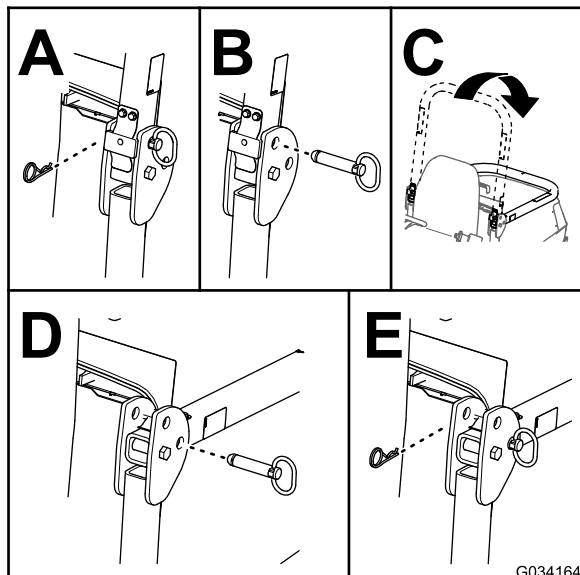

Figure 22
2. Remove the cotter pins and pins from the roll bar (Figure 22).
3. Lower the roll bar and secure it in place with the pins and cotter pins (Figure 22).